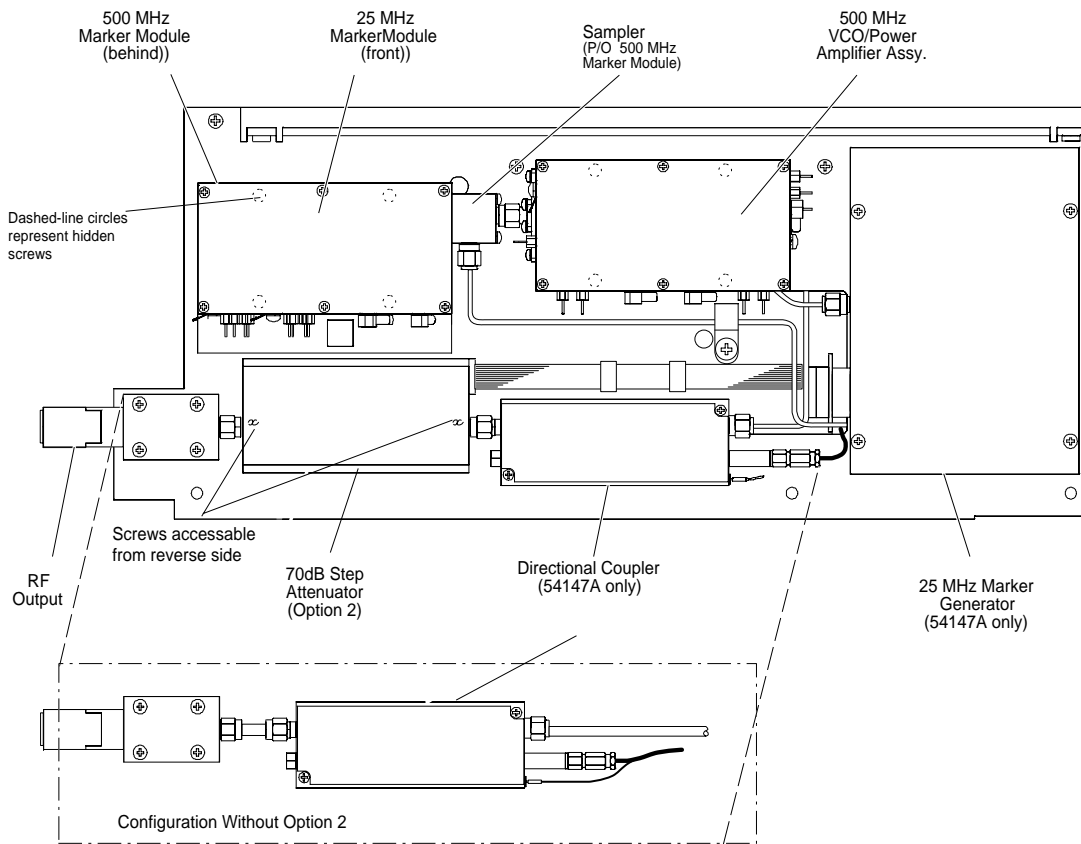

Figure 7-16. Models 54137A and 54147A RF Deck Parts Location (External Side Detail)
This paragraph provides instructions for removing and replacing the microwave components on the 54137A and 54147A RF decks. Procedures are organized by component. Refer to Figures 7-16 and 7-17 for component locations. In all cases, the replacement procedure is the reverse of the removal procedure.
Step 3. Remove two screws from attenuator package ("X" in Figure 7-16), disconnect the remaining RF connector, and lift the attenuator straight away.